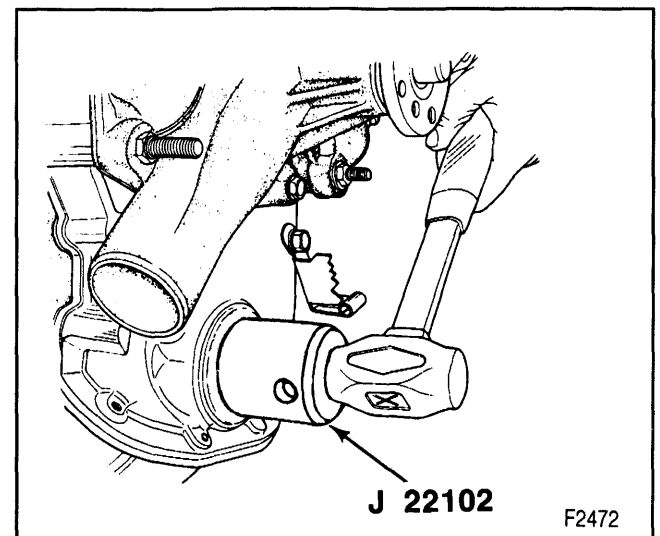

Figure 20—Installing the Front Crankshaft Seal
Install or Connect (Figure 20)
1. New front crankshaft seal. Use J 22102 (figure 20). Lubricate the seal lips with engine oil.
Install or Connect (Figures 20, 21 and 22)
1. New front crankshaft seal to the front cover. Use J 22102 (figure 20)